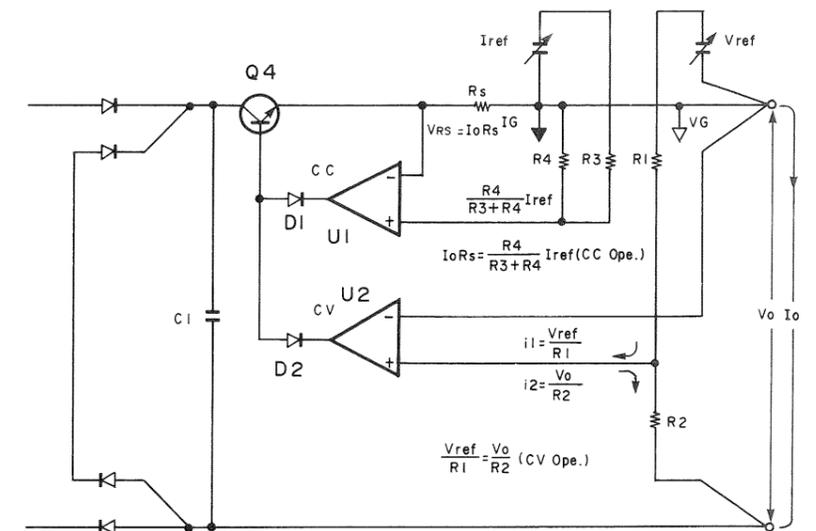

Fig. 2 With the PD series, the constant output voltage and current are obtained by changing the V_{ref} and I_{ref} .
3. VOLTAGE/CURRENT CONTROL CIRCUIT (See Fig. 2)